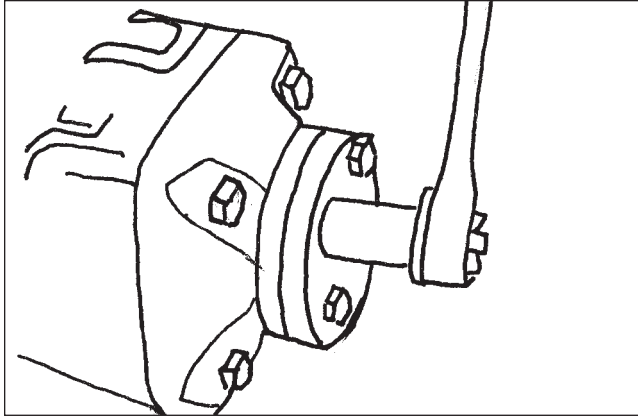

Figure 8
6. Using the ratchet and 15 or 16mm socket, loosen and remove the 4 bearing cap cover bolts and remove the cover (Figure 8).